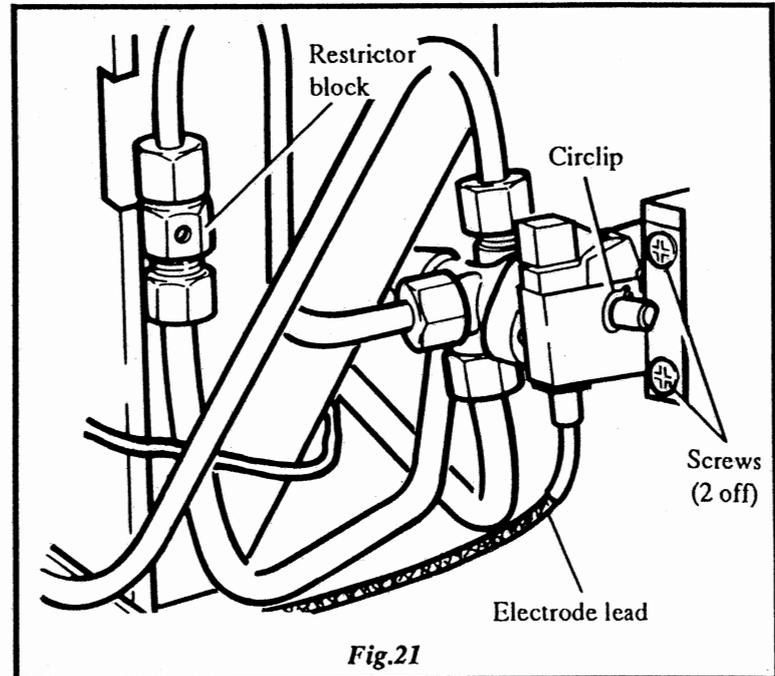

Fig.21
7. Undo the union nuts either side of the restrictor block, see Fig. 21 and remove the restrictor block. Examine the restrictor block to ensure it is clear. Replace the restrictor block and secure the union nuts.
12.6 To replace the restrictor block - see Fig. 21.
12.7 To replace the piezo unit - see Fig. 21.
12.8 To replace the gas tap - see Fig. 21.